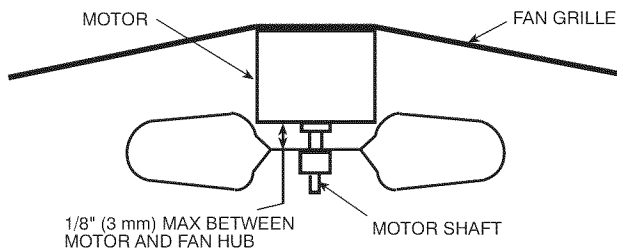

Fig. 18 - Fan Blade Clearance
- a. Make sure that condenser-fan blade is correctly positioned in fan orifice. Leading edge of condenser-fan blade should be 1/2 in. (13 mm) maximum from fan orifice (see Fig. 18).